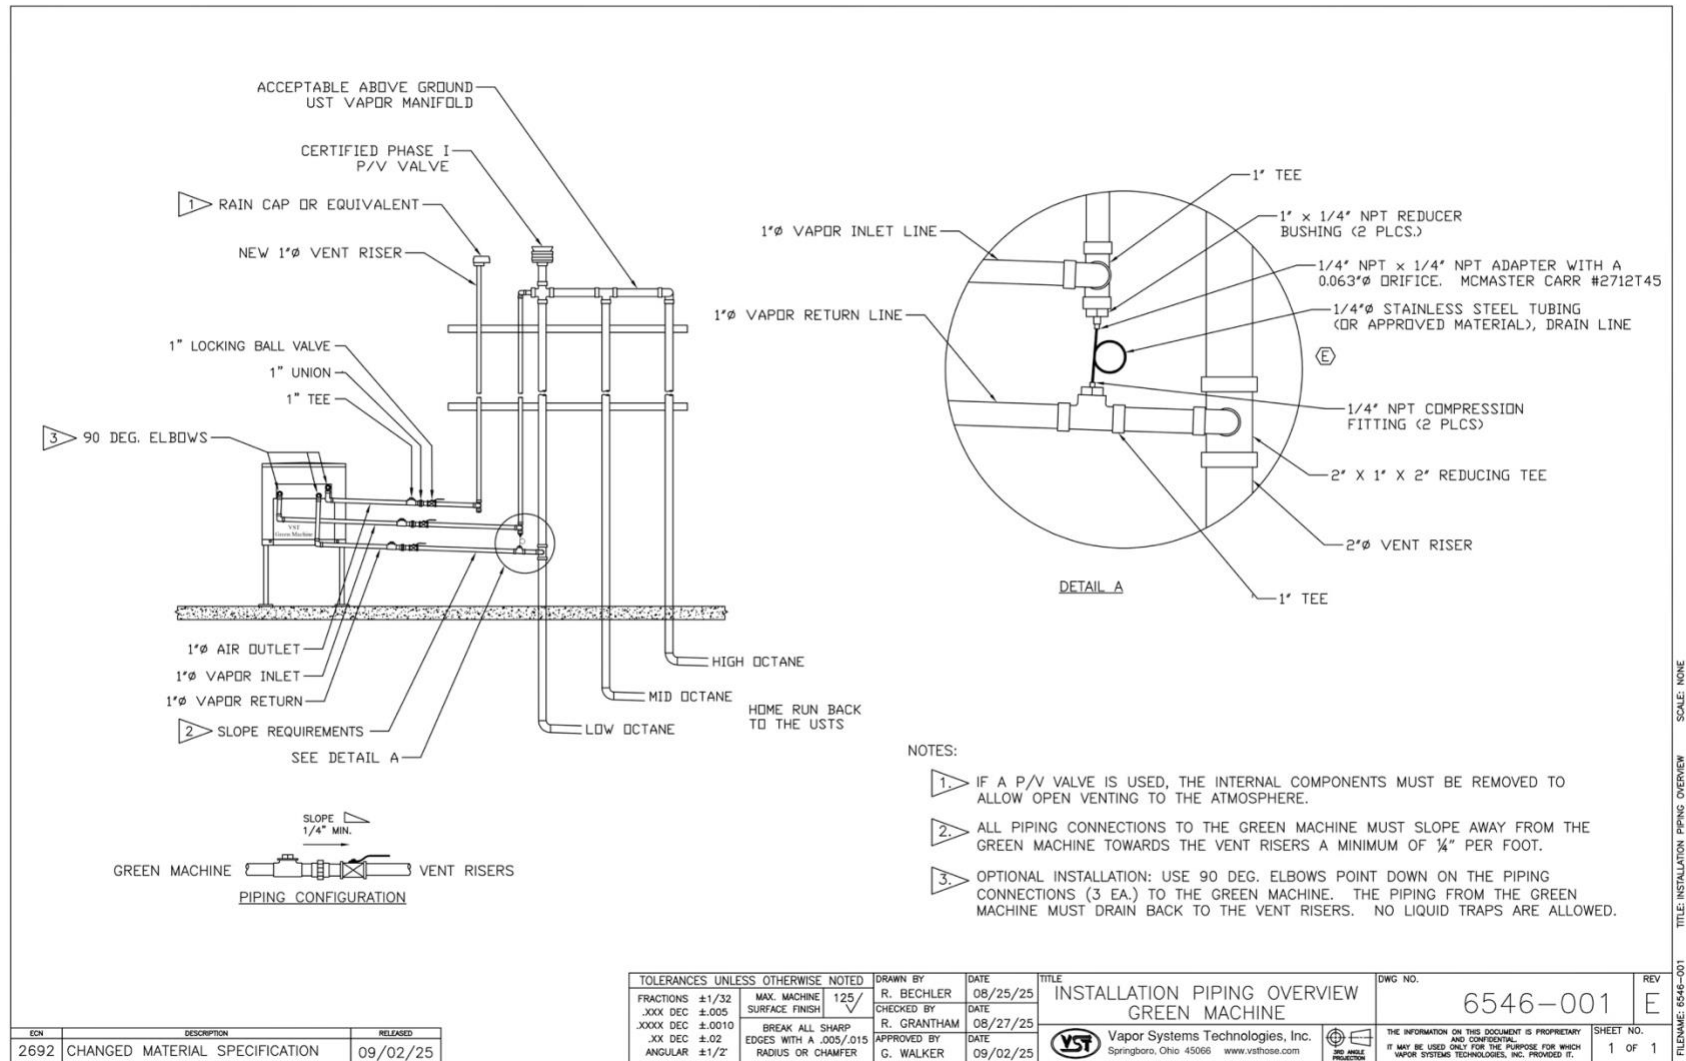

Figure 2-1: Vapor Piping Overview
- There are 3 piping connections to be made to the GREEN MACHINE. **See Figures 2-1 & 2-2:**
- The 1/4" diameter drain line with the supplied adapter must be installed per **Figure 2-1**.
- Install a 1" vapor inlet pipe and a 1" vapor return pipe as shown in **Figure 2-1** from the vapor inlet and vapor return connections on the GREEN MACHINE to an existing vent riser.
See Figure 2-1.
- The 1" piping must slope away from the GREEN MACHINE a minimum of ¼" per foot. **See Figure 2-1.**
- From the vent riser, install the 1" locking ball valve, then the 1" union, then the 1" tee as shown in **Figure 2-1.**
- The ¼" diameter drain line with the supplied adapter must be installed per **Figure 2-1.**